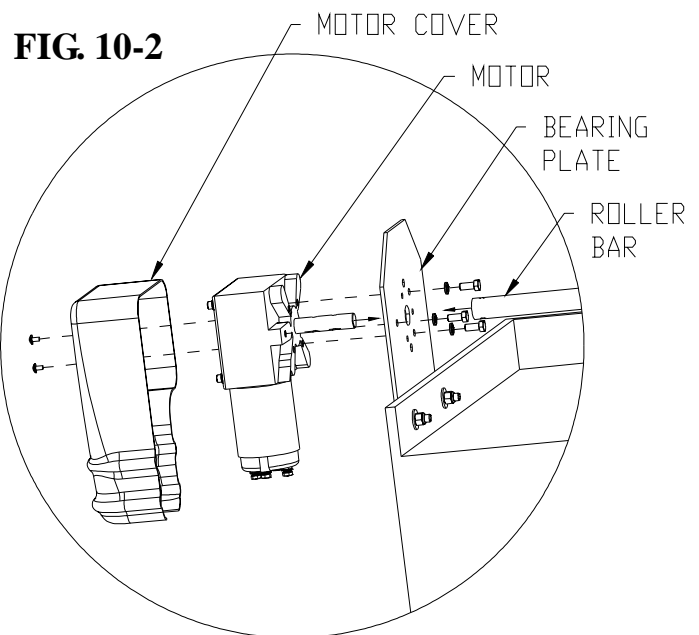

FIG. 10-2
4. Mount the DD motor to the bearing plate or cab shield. Install cover onto motor. See figure 10-2.